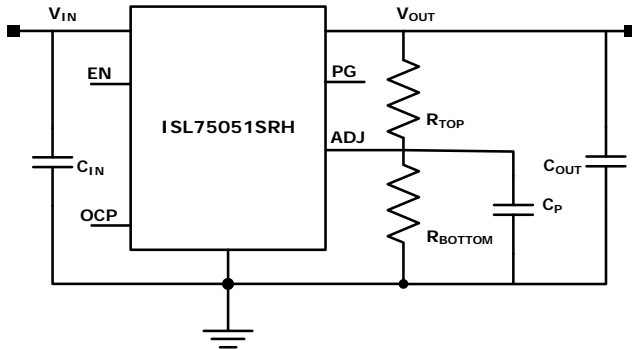

FIGURE 2. ISL75051SRH TYPICAL APPLICATION
A small capacitor (CP) can be placed on the ADJ pin of the ISL75051SRH, as shown in Figure 2, across the bottom resistor in the feedback resistor divider. This is effectively a pole. The value of the capacitor can be calculated using Equation 1: